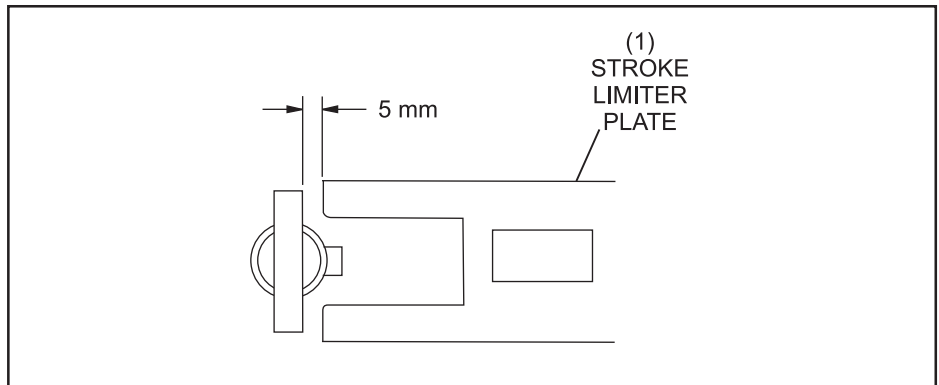

*Figure 5-42. Adjusting Stroke Limiter Mounting Bracket.*
- e. If an adjustment is required, raise the table off the stroke limiter. Loosen the locknuts on the stroke limiter mounting bracket's vertical bolt and loosen the two mounting bolts illustrated in *Figure 5-42*. Lower or raise the stroke limiter as needed. Repeat steps a - d until the 3 - 5 mm clearance is obtained.
- (1) LOOSEN MOUNTING BOLTS
- (2) LOOSEN LOCKNUT
- (3) ADJUSTMENT BOLT
- (4) SHOCK STOP COLLARS